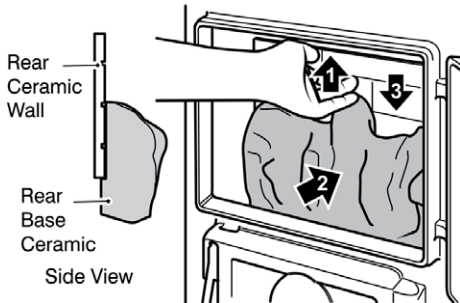

Figure 3
4. The rear ceramic wall must be located onto the ledges at the back of the rear base ceramic (See figure 3). To achieve this, hold the rear ceramic wall against the rear of the firebox at its uppermost position. Whilst holding the rear ceramic wall in this position locate the rear ceramic base coal into position (See figure 3). The rear wall can now be released. Ensure that the rear ceramic wall sits on the ledge at the back of the rear base coal.